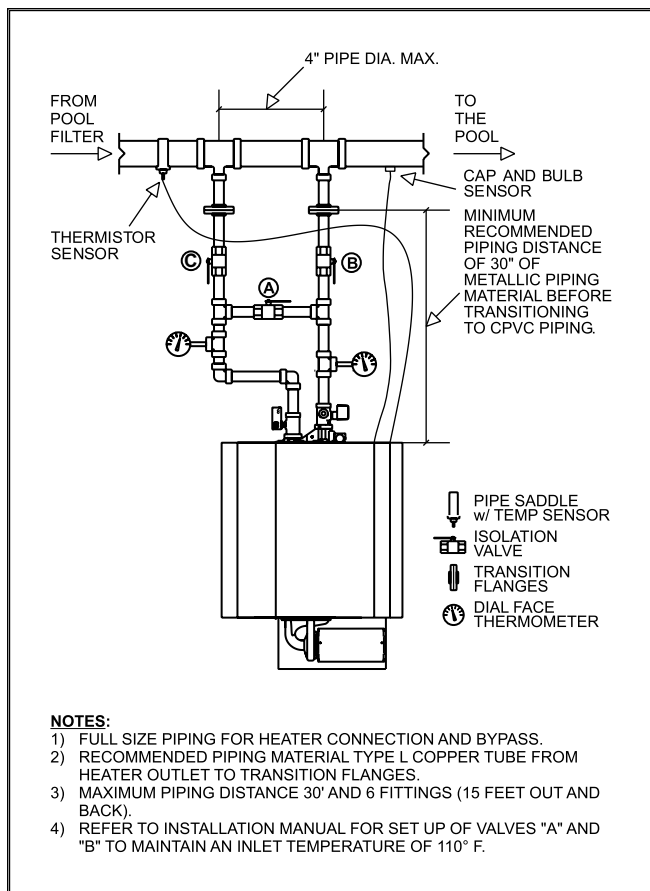

Figure 10 - Heater Piping Arrangement
In addition to the bypass valve "A" and outlet valve "B" shown in Figure 10, an inlet valve "C" should be provided so that the heater can be readily isolated for service. Butterfly and globe valves are recommended for this application to allow for precise adjustment of water flows. For spa applications see Section 3.9.
All AP series heaters, 500-1825 models, must be installed with bypass piping. Please use Figure 10 as your guide to plumb the bypass. For spas see Section 3.9.
All models are supplied with integral pumps. These pumps are sized for the pressure drop through the heat exchanger, 30' of piping, and through the bypass piping as shown in Figure 10.
All models must be installed in the primary/secondary arrangement shown. The heater loop piping must tee into the filter loop piping with the inlet and outlet connection spaced a maximum of 4 pipe diameters apart (see Figure 10).
Two temperature sensing devices are installed on the heater that require sensing bulbs be field installed according to Figure 10.
2. Since outlet temperatures can approach 140°F (60°C) units must be piped in a Primary/Secondary style similar to that shown in Figure 10.